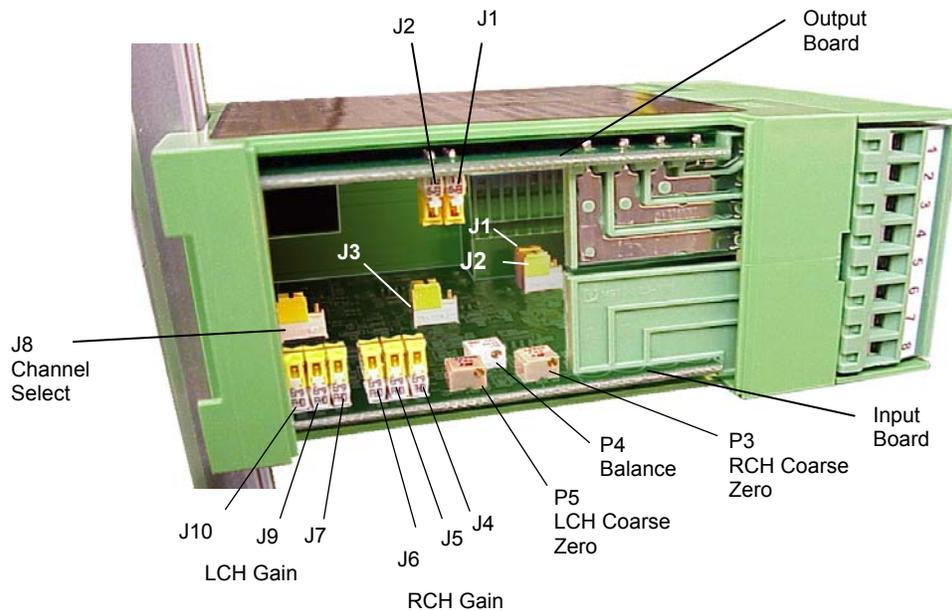

Figure 4 - Internal Jumper-switches and Potentiometer Location
A number of operational characteristics can be configured prior to mounting or wiring the amplifier. We recommend that you first familiarize yourself with the internal switch locations, settings, and potentiometers by opening the snap-on access cover. Figure 4 illustrates the location of configurable items on each of the printed circuit boards.
In addition to the Gain and Zero adjustable potentiometers visible on the front of the unit, there are adjustments you can make by removing the snap-off cover on the side of the amplifier. The adjustments are on the output and input printed circuit boards as shown in Figure 4. The following table provides you with a list of potentiometers, where they are located on the Ultra Series DIN Rail input printed circuit board, and a description of their functions. For information on the correct adjustment tools to use, refer to section 3.7 in this document.
The Excitation Voltage is determined by the position of jumper switch J3. Refer to Figure 4 for jumper-switch locations. The jumper default setting is J3 (1-2) position for 5.00V excitation. Do not use 10V setting J3 (2-3) position unless explicitly permitted by the load cell electrical specifications. Promptly verify the excitation voltage after power-up to avoid overdriving strain gages. Note that if there is no external load resistance, the voltage may rise to 6.4V, but will immediately regulate at 5.00V when the load cells are connected.
The group of jumper-switches that control the fixed gain of the Instrumentation Amplifiers (IA) are located close to the front left edge of the Input card. (Refer to Figure 4) Typically, you configure both channels to the same setting if both transducers are the same force rating.
When the amplifier is held horizontally with the pluggable connectors facing toward the right (refer to Figure 4), the leftmost cluster of jumper switches, (J10, J9, J7) sets the gain for the LCH (Left Channel) Instrumentation Amplifier. Similarly, the right cluster of jumper switches, (J6, J5 and J4) sets the gain for the RCH (Right Channel) Instrumentation Amplifier. The lowest gain ( $A_v = 8$ ) occurs when all of the switches are in the 1-2 position. As switches are moved “away” (into position 2-3) from left to right, the gain progressively increases as described in following table:
The damped output for a tension indicator can be configured as either a +/- 2V output or a +/- 1mA output by changing the position of jumper-switch J1 located on the Output Card (Refer to Figure 4 for location). Voltage output is selected by setting J2 to the (1-2) position. Current output is selected when J2 is set to the (2-3) position. Note that different wiring terminals are employed for the signal return when configured for current or voltage.
The amount of damping for the meter output (intended to drive a tension indicator) can be configured by the position of jumper-switch J2 on the Output card (refer to Figure 4 for location information). Setting the jumper switch to J2 (1-2) sets the break frequency at 0.3 Hz. Setting the jumper switch to J2 (2-3), the break frequency setting is raised to 3.7 Hz